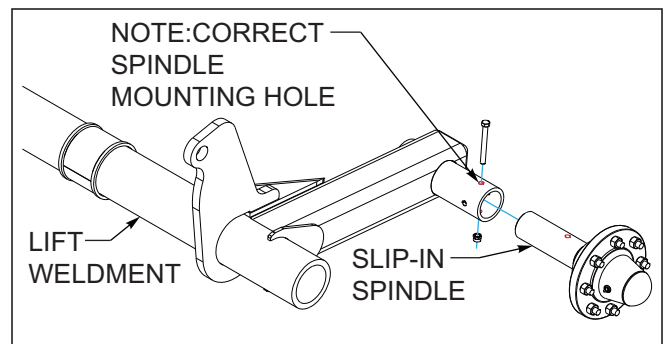

Figure 3-5: Spindle Mounting 1770-40, 1790-52' & 1710-64'
2. The slip-in spindle should be in the outer most hole in tube, **See Figure 3-5** for models 1770-40', 1790-52' & 1710-64'.